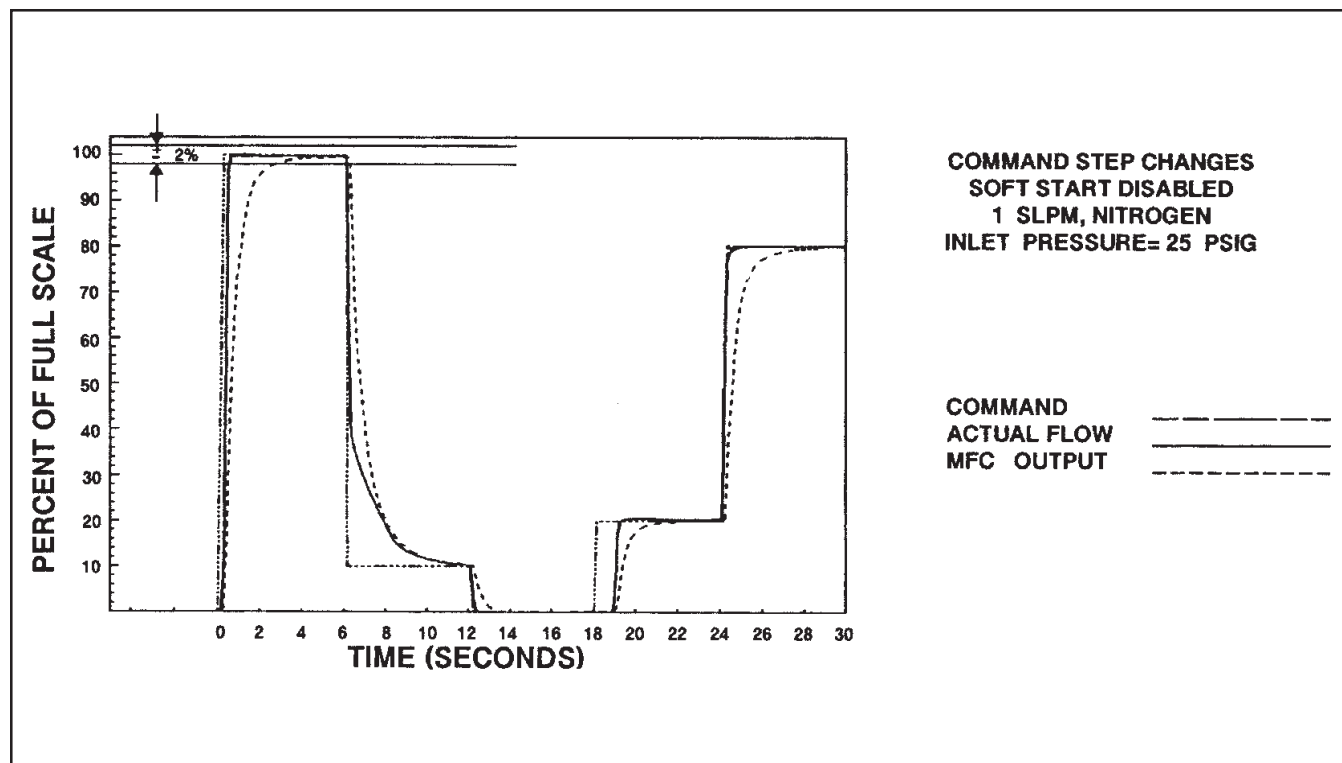

Figure 1-1 Typical Response to Flow Step Changes
**Fast Response** rapidly indicates changes in actual mass flow rate. Refer to Figure 1-1.